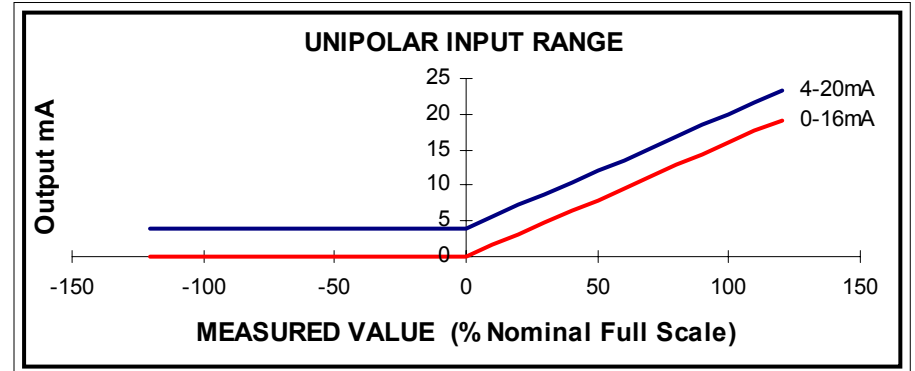

Figure 6.1 Unipolar Analogue Output
- The **Absolute** range provides output of the instantaneous value only, ignoring the sign. Figure 6.1 to Figure 6.3. show the characteristic graphs for each input range.